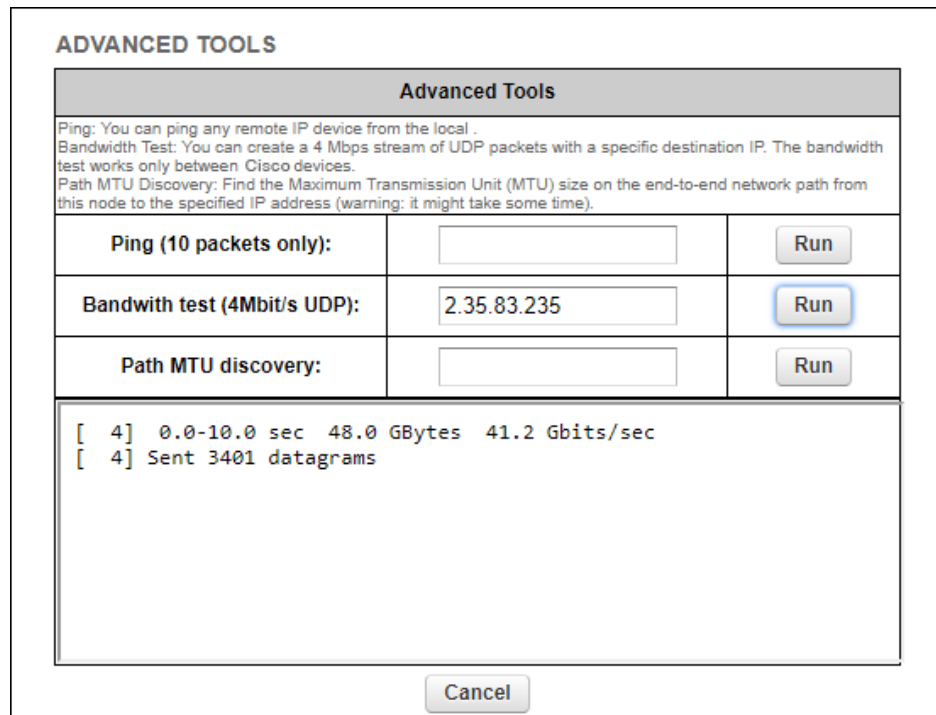

Figure 30. Advanced Tools window (Bandwidth test tool)
2. Enter the IP address of the other unit in the **Bandwidth test (4Mbit/s UDP):** field (Figure 30 \(page 91\)).